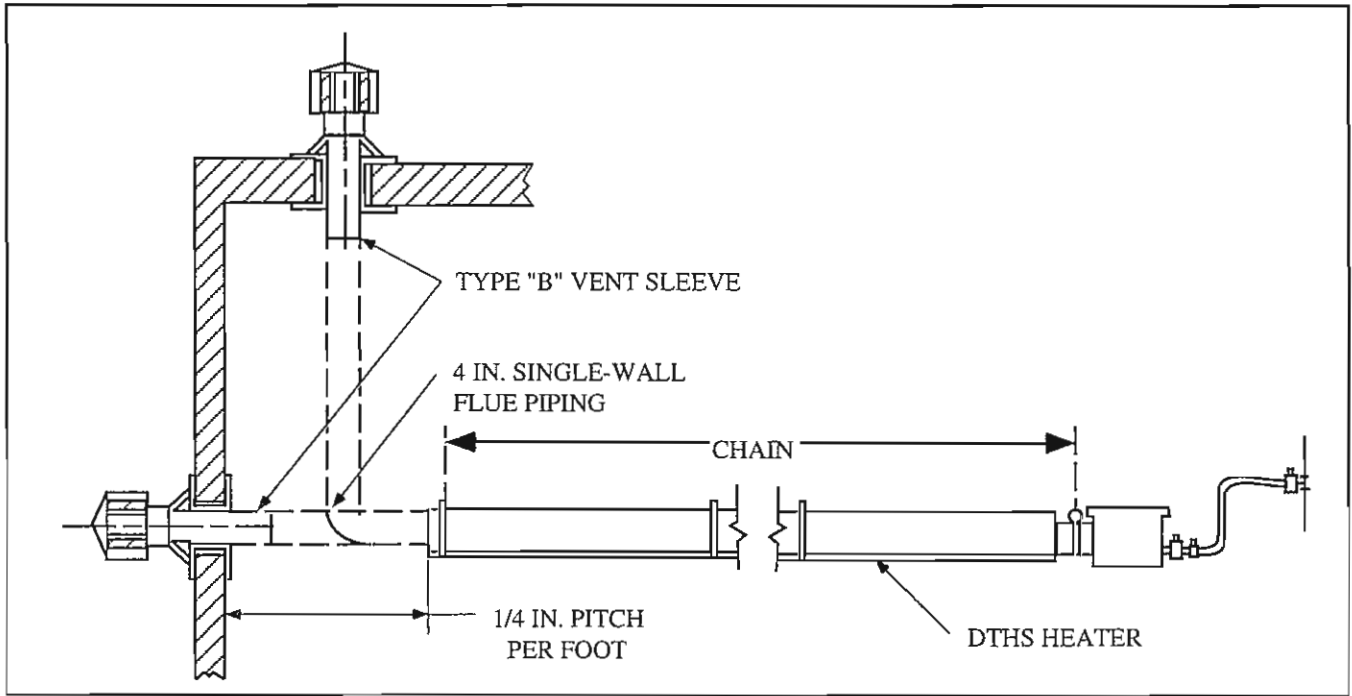

Figure 1-16
- All vent pipes must be with high temperature sealant and (3) #8 sheet metal screws.
- Horizontal flues should be pitched down toward outlet, 1/4 in. per ft of the vent length, to prevent rain from entering the heater (see Figure 1-16). **Do not pitch heater.**